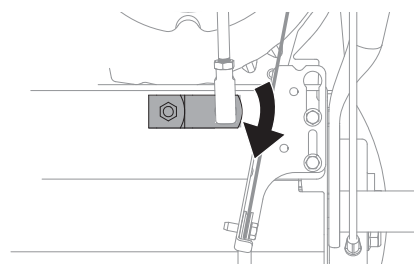

Figure 2-40
9. Make sure the shift lever on the back of the transmission is rotated downward to the full extent of its rotation. See Figure 2-40.